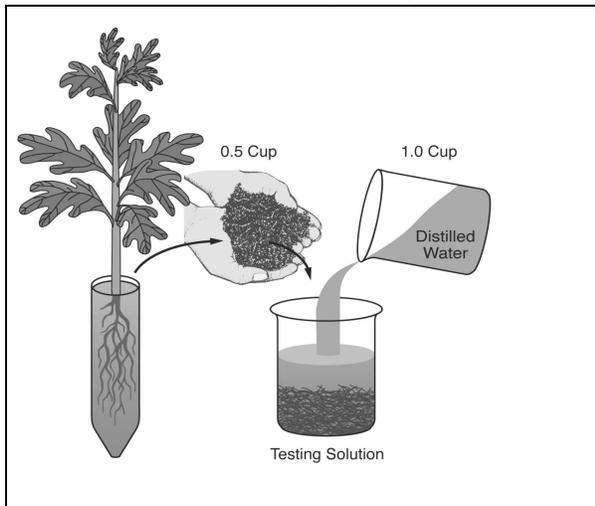

Figure 3 - The 1:2 dilution procedure produces plenty of solution to measure but is destructive and must be calibrated to the SME technique.
**1:2 Dilution.** This is the most popular of the several dilution techniques and uses 1 part of soil or growing media to 2 parts distilled or deionized water (Figure 3). For example, take a half cup of soil or media, place it into a beaker, and add 1 cup of water. Remember that you can't use tap water because it will contain some dissolved salts and will confound your readings. Compress or squeeze the slurry and take your EC reading. This is a popular technique because it gives you plenty of solution to measure but, because it contains much more water than at saturation, your readings will